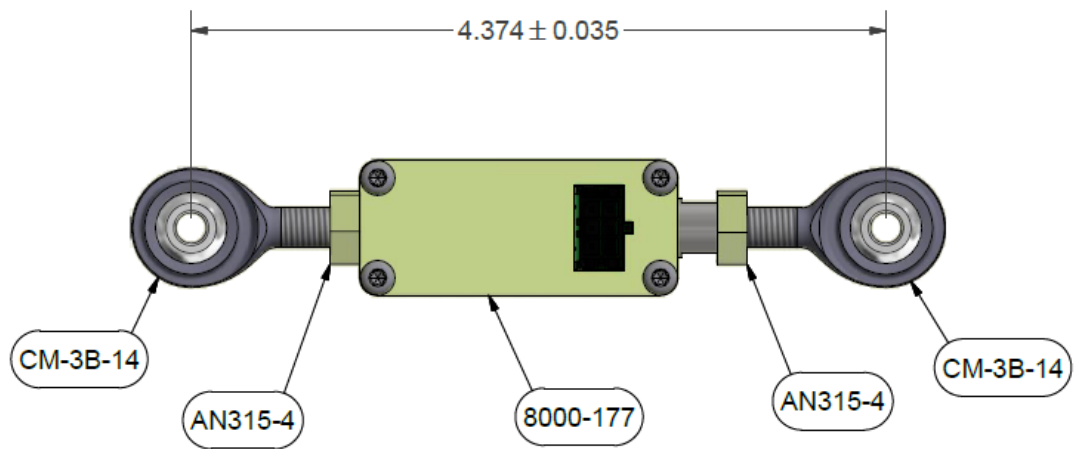

Figure 2-20
- 1.33. Install large rod end bearings (P/N 2510-052) in the PMA link sensor (P/N 8000-177) as shown in Figure 2-20. Apply blue threadlocker (Loctite 242 or equivalent) to rod ends and torque AN315-4 nuts to 50-70 in-lb.